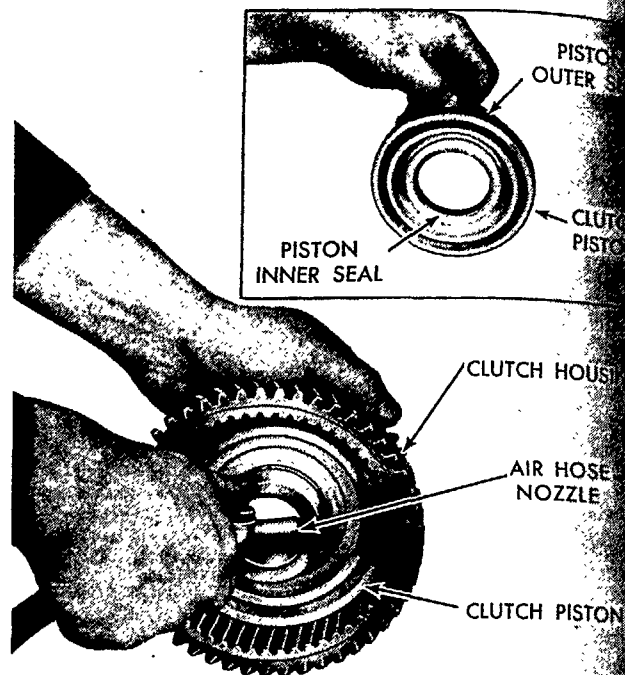

Figure 108
4. Place an air hose nozzle in the hole in the hub, as shown in Figure 108, and force the piston out of the clutch housing with air pressure.
5. Remove the piston inner and outer seals, shown in the Insert, Figure 108.
6. Remove the piston by applying compressed air to the oil supply port in the clutch housing. See Figure 108.